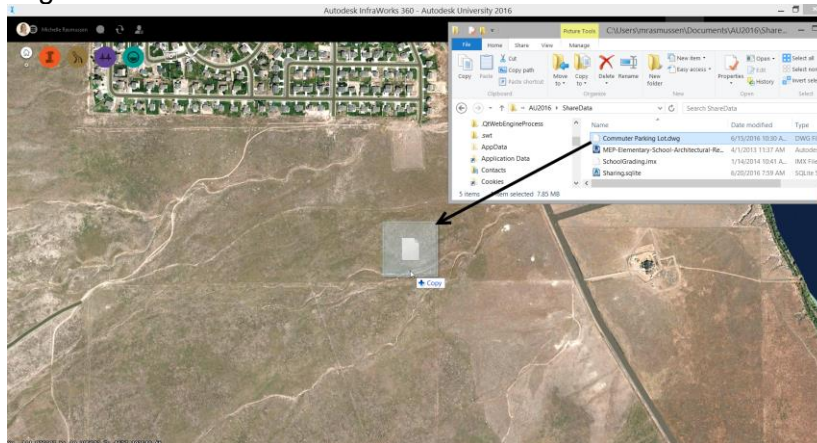

FIGURE 23
3. Drag the drawing file into the Autodesk InfraWorks 360 model and drop it in place, as shown in Figure 23.